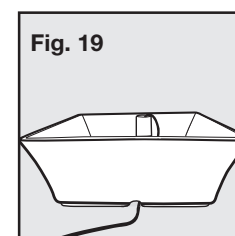

Fig. 19
- Press down on the pump to engage the suction cups. Once the pump is securely in place, feed the in-line plug of the electrical power cord over and through the raised post and out the notch in the base of the bowl (Fig. 19).